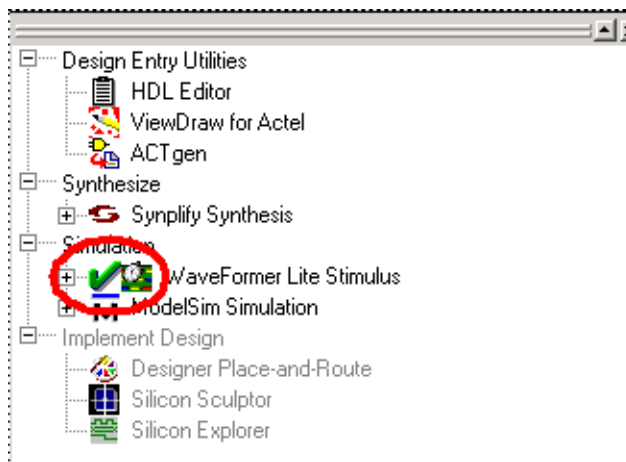

Figure 5-12. Check Mark in Waveformer Lite
3. Click OK. A check mark appears next to Waveform Lite in the Process window, as shown in Figure 5-12.